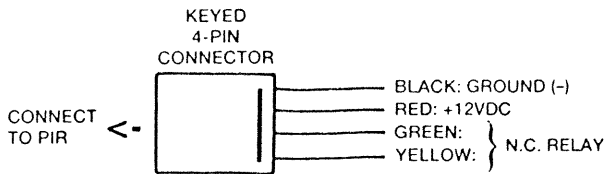

Figure 3. Keyed 4-pin Wiring Connector
2. Wiring (from the control, etc.) must be brought into the electrical box and spliced to the leads on the connector that has been supplied, as shown in Figure 3.